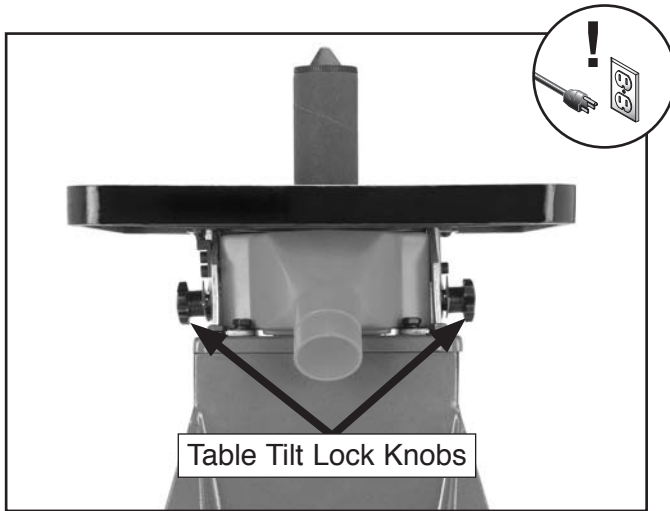

Figure 22. Table lock knobs.
2. Loosen the two lock knobs, located on each side of the table tilt assembly (**Figure 22**).